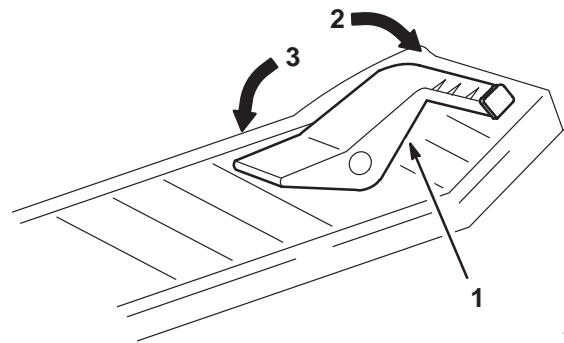

Figure 14
2. Place your foot on the ground speed pedal (Fig. 14) and slowly press on the top of the pedal to move forward or on the bottom of the pedal to move backward.